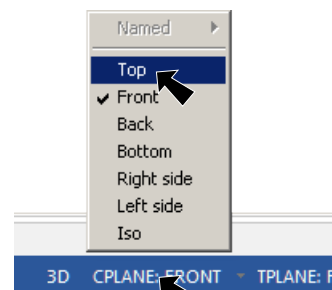

Fig. 4
Step 1. Click **CPLANE** in Status bar at bottom of the graphics window and click **Top** from the menu, **Fig 4**. This also changes the TPlane.